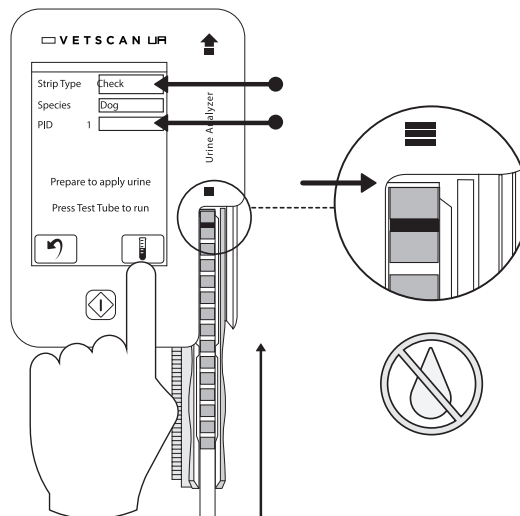

Fig. 21 Starting a Check Strip test
- With the UA analyzer powered on, select Check for **Strip Type** and enter "0" for **Patient ID (PID)** on the Home screen. (Fig. 21). The **Species** field will be ignored when the **Strip Type** is Check. Press the **Test** button and place Check Strip onto Strip Tray, aligning end of the Check Strip with the edge of the upper cover of the UA analyzer (see arrow, Fig. 21). DO NOT wet the Check Strip. The analyzer will run the Check Strip.